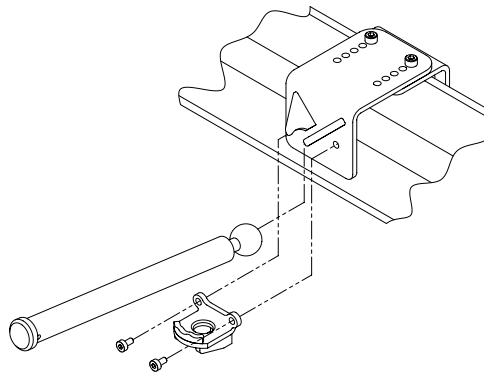

Figure 4: Attaching Ball Support and Support Arm to Front Plate.
5. While holding the Support Arm against the front supports of the Front Plate, place the Ball Support underneath the Support Arm and attach using 2 of the M8 x 1.25 x 12 Socket Head Screws. (refer to Fig. 4)